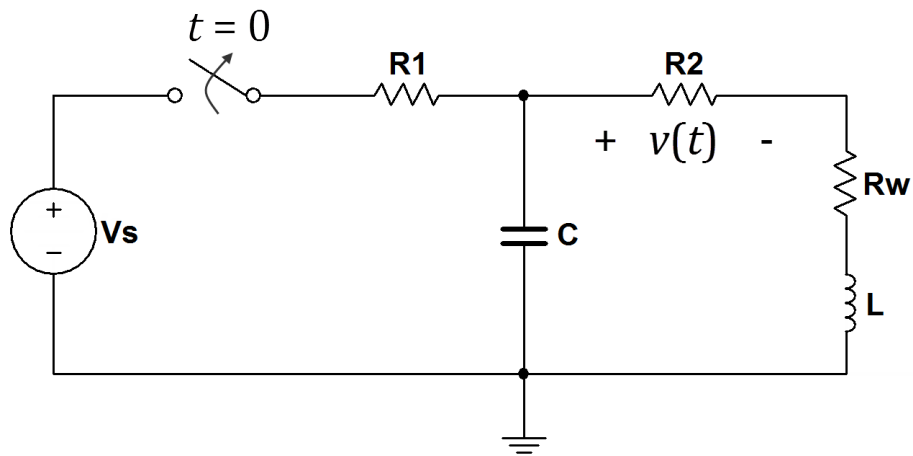

Figure 10.1: Circuit for Problem 10.1
1. Determine $v(t)$ of the circuit shown in Figure 10.1 on the following page for $t \geq 0$, given that the switch is opened at $t = 0$ after having been closed for a long time. Use the following component values: $V_{\text{src}} = 8 \text{ V}$, $R_1 = 470 \Omega$, $R_2 = 100 \Omega$, $R_w = 90 \Omega$, $C = 1.0 \mu\text{F}$, and $L = 33 \text{ mH}$.
1. Enter the circuit of Figure 10.1 using the same component values listed in the problem statement. Implement the switch with a `VOLTAGE_CONTROLLED_SWITCH` operated by a `PULSE_VOLTAGE` source configured to open the switch at time 1 ms; this delay makes the initial transition easier to see.
1. Construct the circuit of Figure 10.1 on the facing page using the following components and NI ELVISmx instruments: